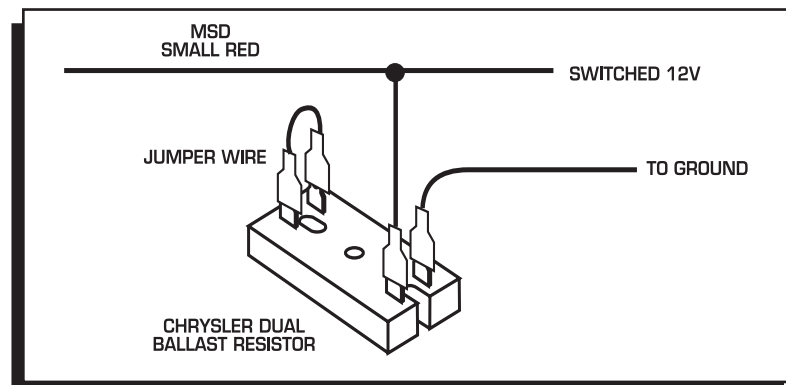

Figure 6 Wiring the Dual Ballast Resistor for Run-On.
**Most other applications:** On other applications where engine Run-On is experienced, a Resistor can be put in-line to the MSD's small Red wire (Figure 6). This resistor will keep voltage from leaking through to the MSD unit.